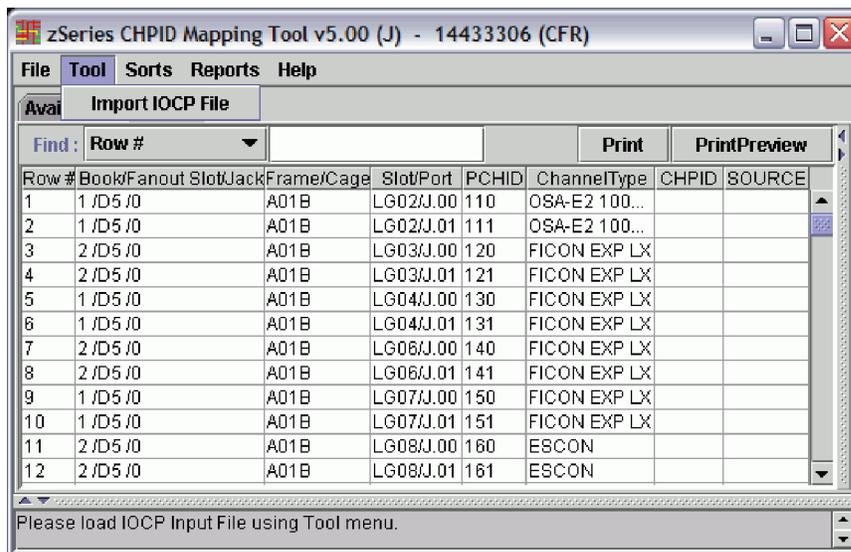

Figure 11. Tool Menu Includes Import IOCP File
1. Click **Tool**. This displays the selection **Import IOCP File**. Figure 11 shows this.